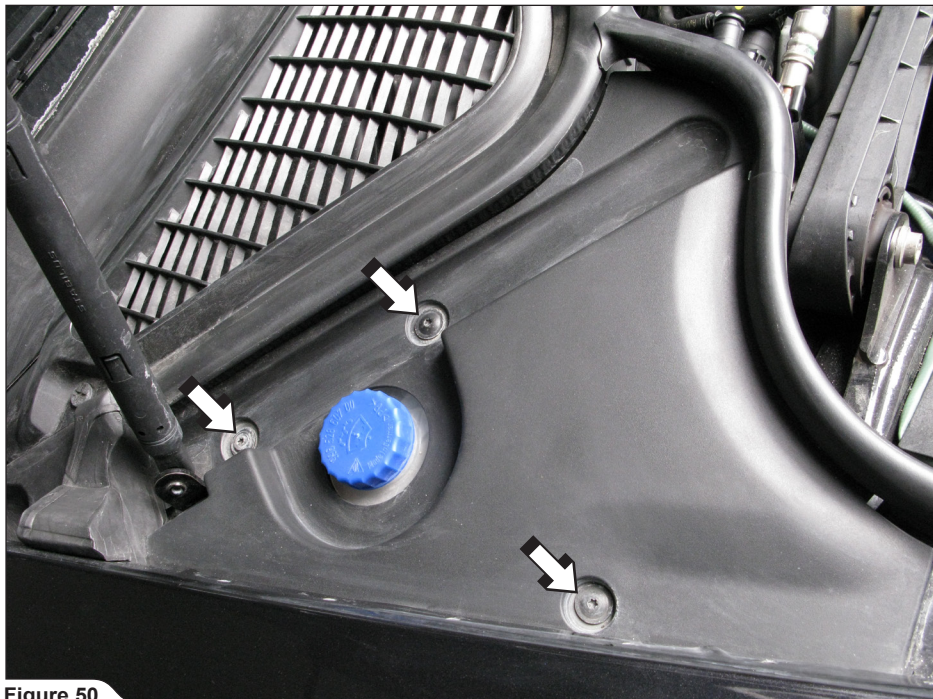

Figure 50
2. Unscrew the marked bolts and remove the PVC cover from the right side of the engine compartment (Figure 50).